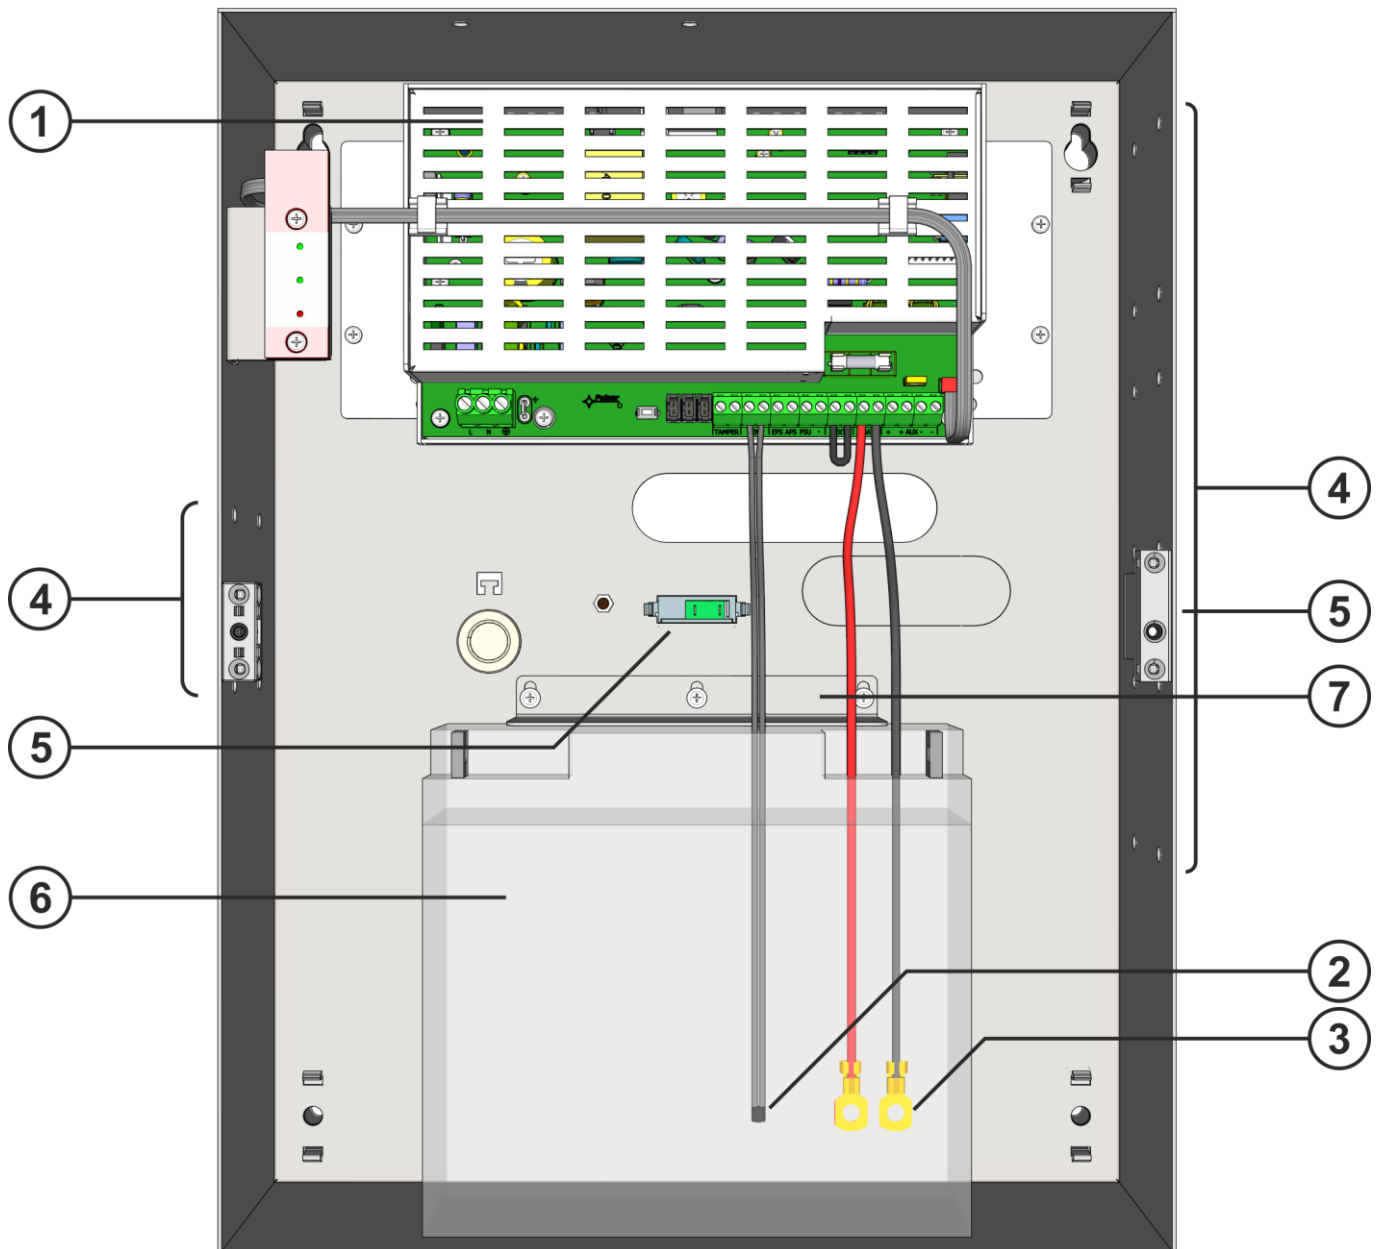

Fig. 3. View of PSU.
**Table 2. Elements of PSU (see Fig. 3).**